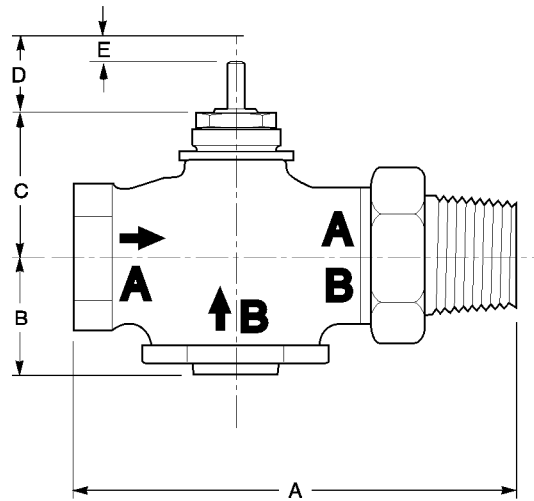

Figure-5 Dimensions for VB-7221 Series Valve Bodies.
**Table-10 Dimensions for VB-7221 Series Valves (Figure-5).**